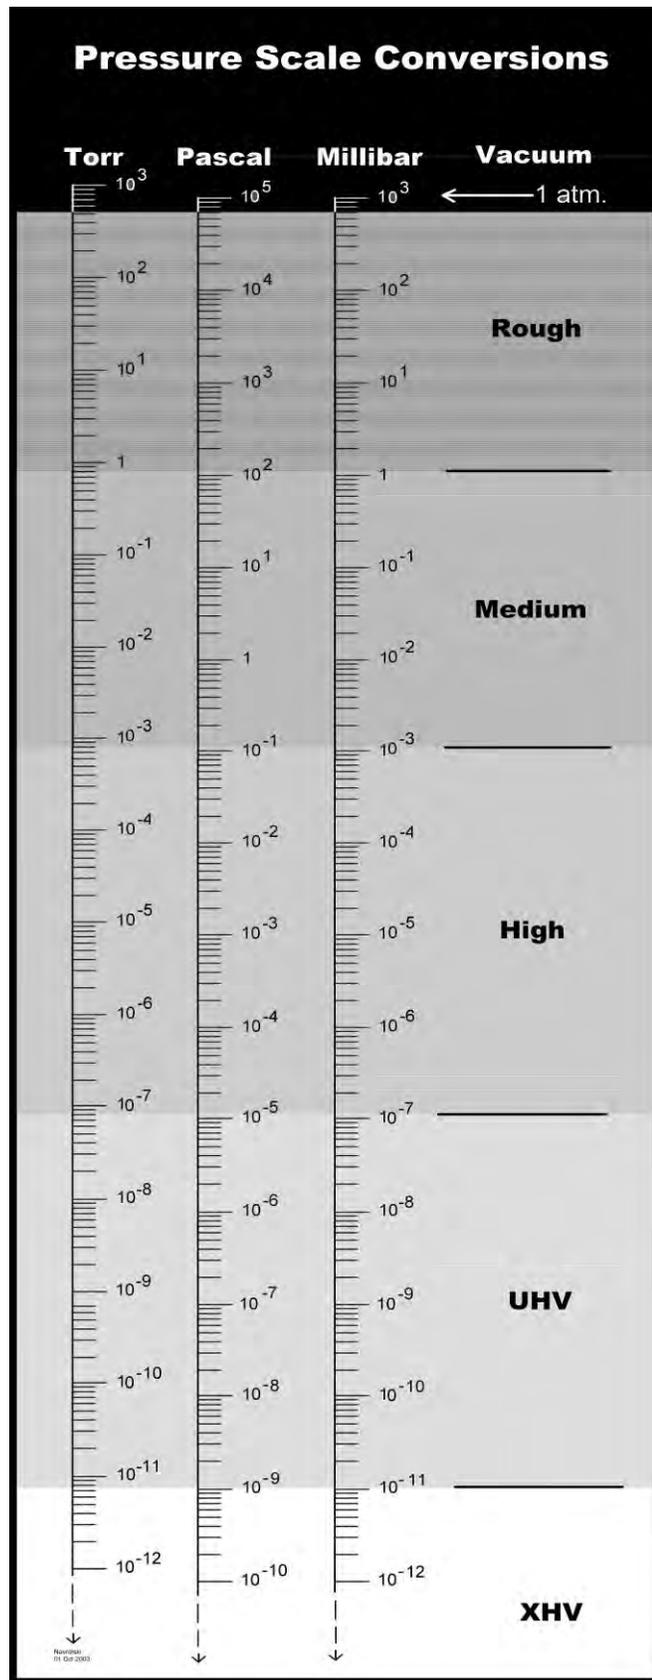

Figure 2 - Pressure Scale Conversions
All you need to know to be conversant about the vacuum pressure scales is included in Figure 2. You see that all scales are logarithmic, where each decade indicates a ten-fold improvement in vacuum, roughly a ten-fold decrease in gas density, and roughly a ten-fold increase in molecular mean free path length. Torr and mbar scales are essentially the same. (1 mbar = 0.75 torr) Multiply by 100 to convert to Pascal. Usually, we simply refer to our vacuum systems as rough vacuum, medium vacuum, high vacuum (HV), ultra-high vacuum (UHV) and extreme-high vacuum (XHV), as indicated at the right of the figure. The exact limits of each of these pressure ranges is not well defined but rather, are indicative of a general *quality* of vacuum. The better the vacuum, the greater the expense, the greater the cleanliness and the fewer the choices for system materials there are. Just remember, although it looks quite impressive that we traverse *sixteen orders of magnitude* on the torr scale, we are only actually crossing the pressure range from 1 atmosphere, 14.7 psi, to the vacuum of interplanetary space, effectively the best vacuum we have ever measured, which we'll arguably call 0 psi.